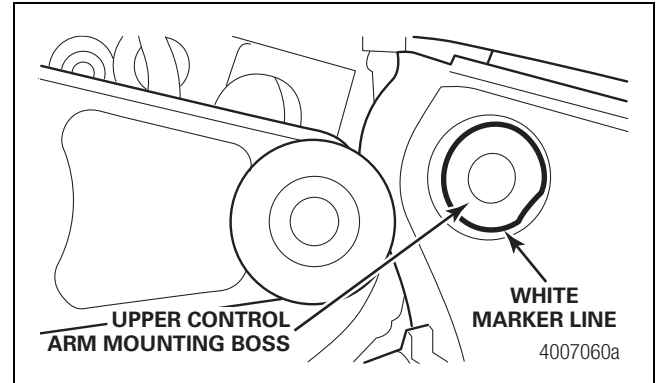

Figure 7
1. Mark the upper control arm bosses with a white marker at the outside diameter to make it easier to see during the cutting process. Figure 7.